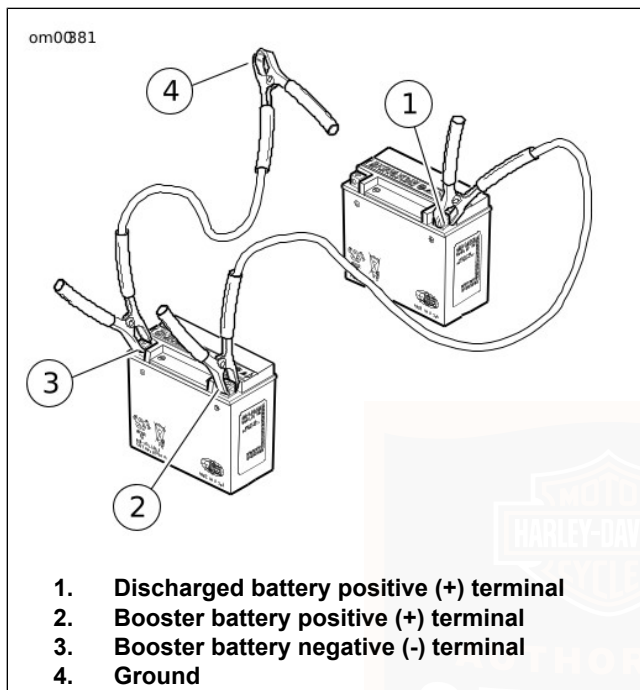

Figure 80. Jump Start Cable Connections
1. See Figure 80. Connect one end of a jumper cable to the DISCHARGED battery positive terminal (1).
2. Connect the other end of the same cable to the BOOSTER battery positive terminal (2).